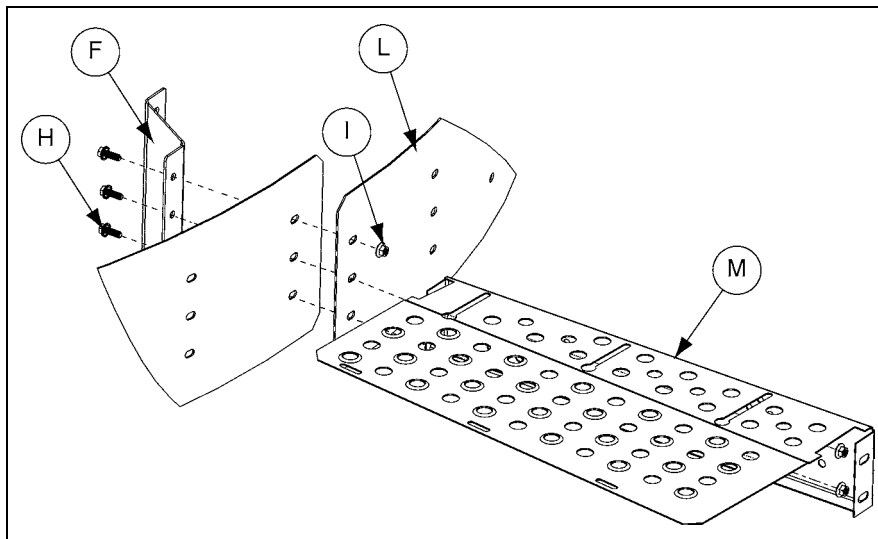

Figure 3C
2. Install the inner toe board (L) and planks (M) to the wall brackets (F) using bolt (H) and nut (I). *(See Figure 3C.)*